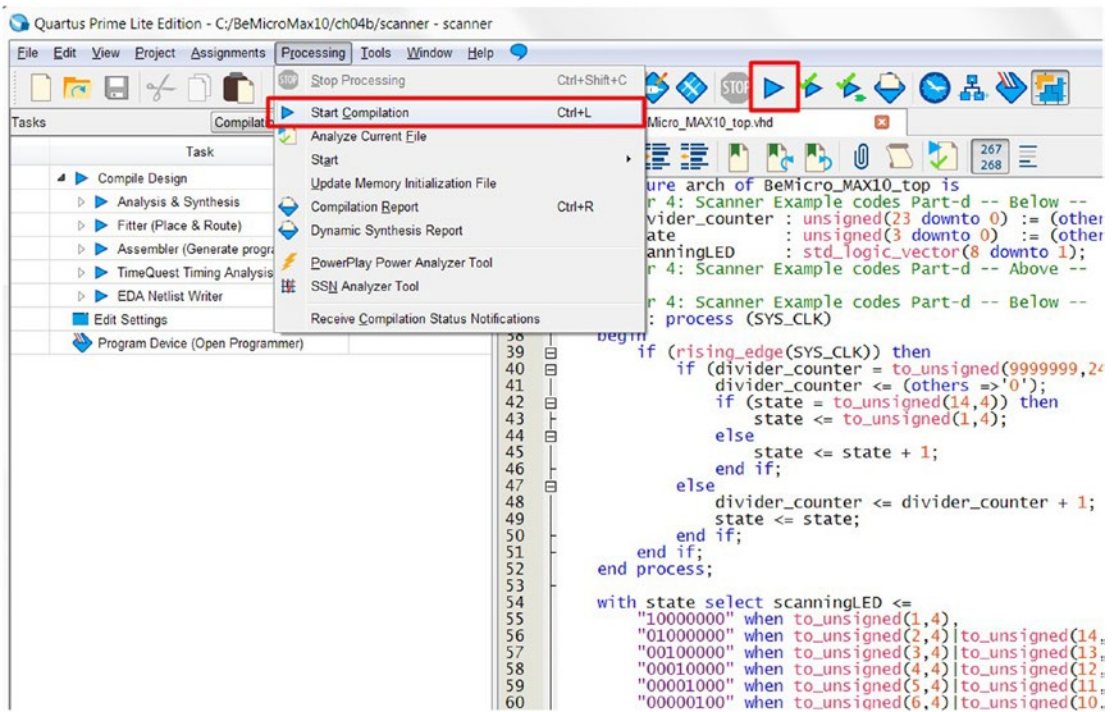

Figure 4-26. How to start the implementation of the design
5. To start the implementation process, you can use any of the following methods. Figure 4-26 highlights the locations.